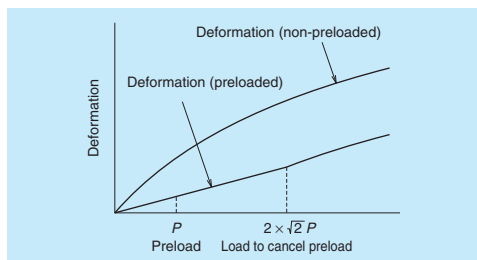

Fig. 3.2 Elastic deformation
- In general, the load range of ball guide system in which the preload is effective, is about 2.8 times of the preload (Fig. 3.2). For roller guide system, it becomes about 2.2 times of the preload.